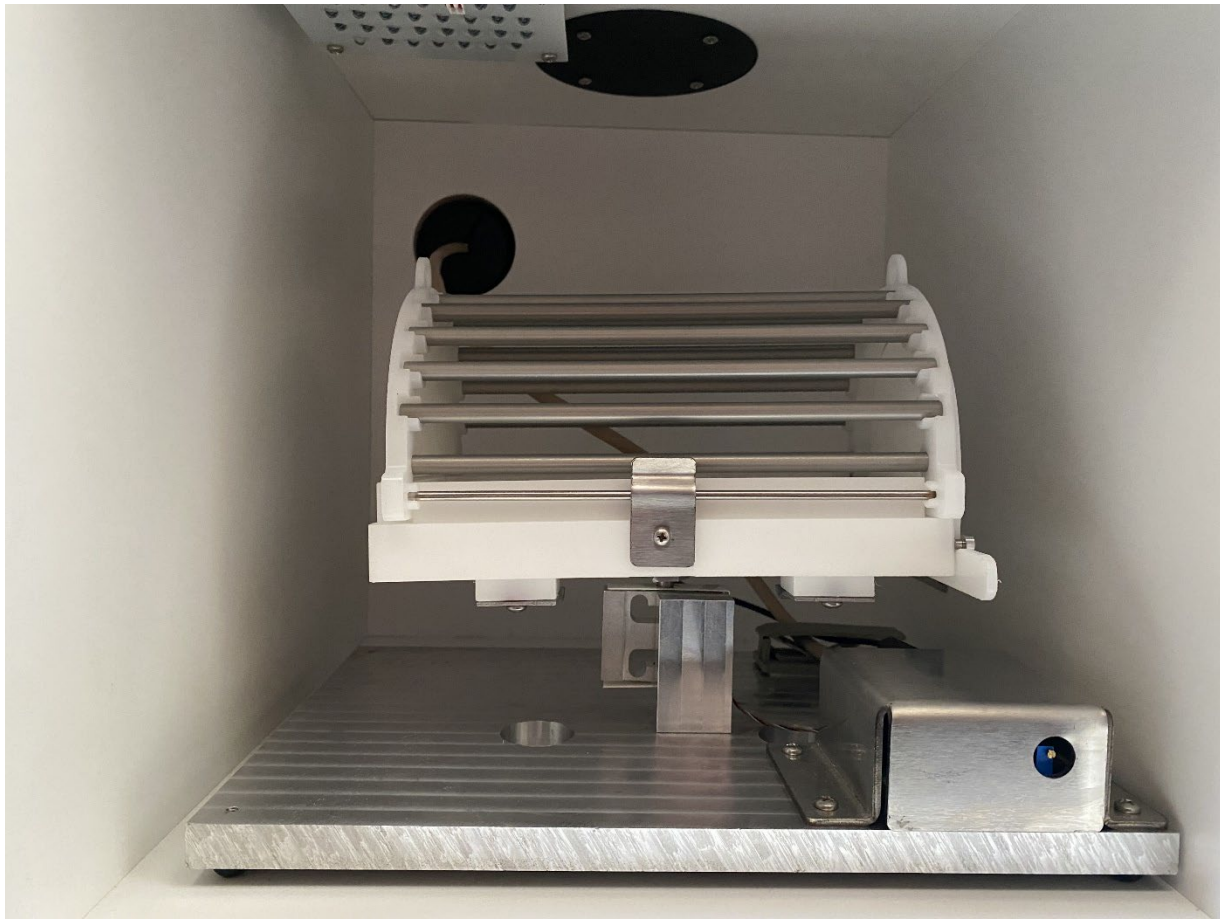

Figure 76 Animal Location
9. Place the animal(s) on the sensing plate in the cabinet(s) (Figure 76).